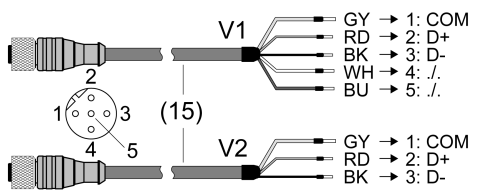

Figure 5: Connecting cable V1 and V2
- Due to a technical revision two different types of connecting cables might be included in delivery under art.-no. il LTGDxAL... (Figure 5).